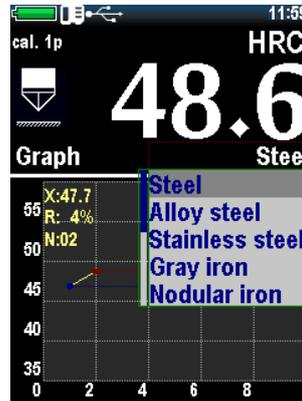

Figure 2.7 – Material selection
6. Select the material that is going to be tested. By pressing **<MATERIAL>** open the selection menu (Figure 2.7), with the keys **<↑>** and **<↓>** select the required material (steel, alloy steel, stainless steel, gray iron, ductile iron (<Nodular Iron>), aluminum, brass, bronze, copper, user material (<USER. 1>, <USER. 2>).